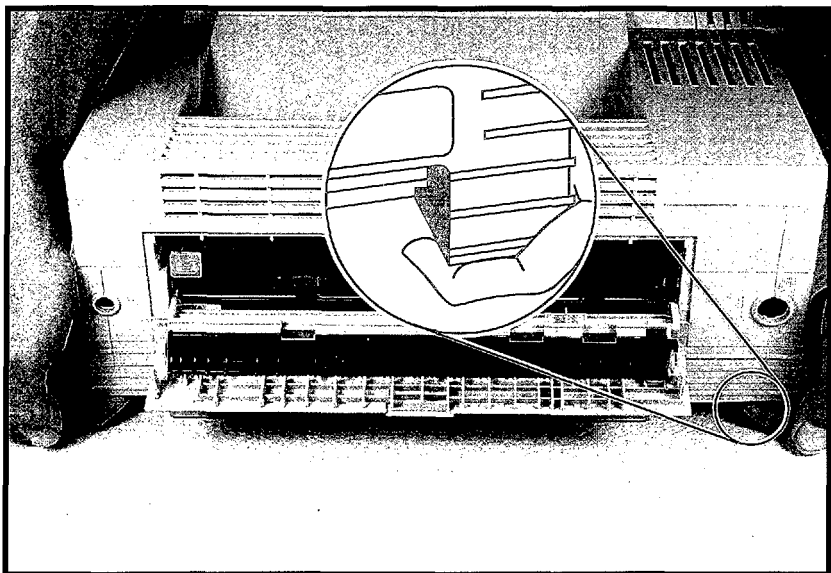

Figure 6-6 Releasing the Printer Cover Rear Tabs
6. With the Rear Door open, pull the lower rear tabs outward, away from the printer and lift upward slightly (Figure 6-6).